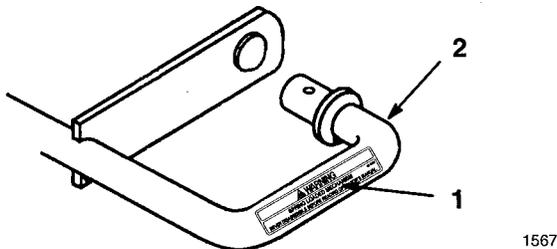

Figure 9
7. Install warning decals to left and right side of lift arms (Fig. 9).